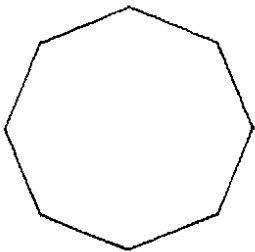

Figure 6-7. Arc Tolerance of 63 Plotter Units
**Result**      Draws a circle with a “worst case” arc tolerance. Circle is approximated by eight chords (see Figure 6-7). The actual plot is shown in Detail C, Figure 6-22.